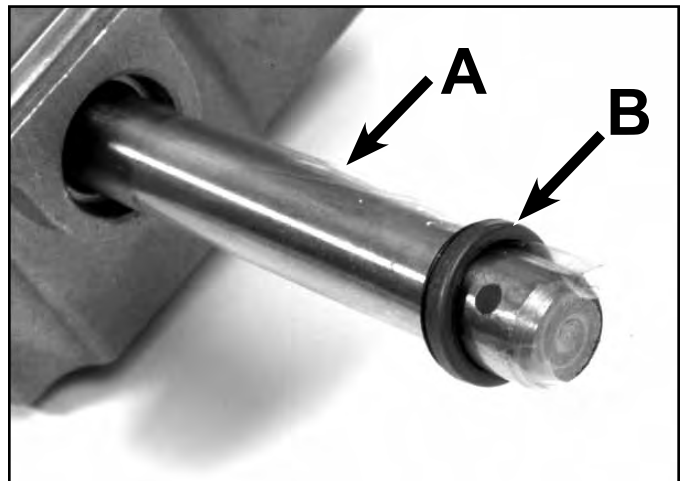

Fig 018 3428-0170
4. Using a seal protector, slide new seals down each side of the axle, Install the seal with the lip facing the transmission. The outer edge of the seal should be flush with the outside of the case. If a seal protector is not available, wrap a piece of cellophane around the axle (Fig. 018).